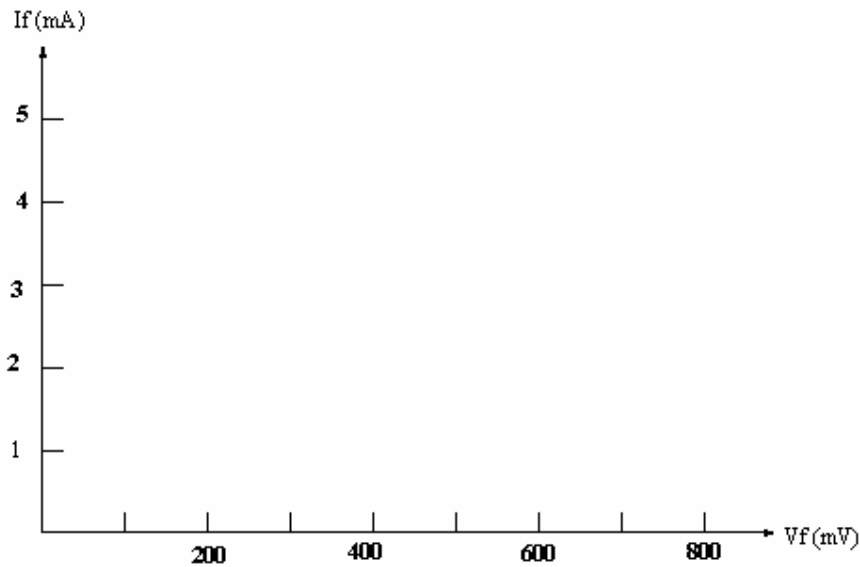

Fig.4: I_F versus V_F
9. Use your results from Table 2 to plot the I_F versus V_F curve for both diodes in Figure 4.
11. Graphically determine the dynamic resistance of the normal diode at 1, 3, 5, 7, and 13 volts using the I-V characteristic curve obtained in Figure 4.